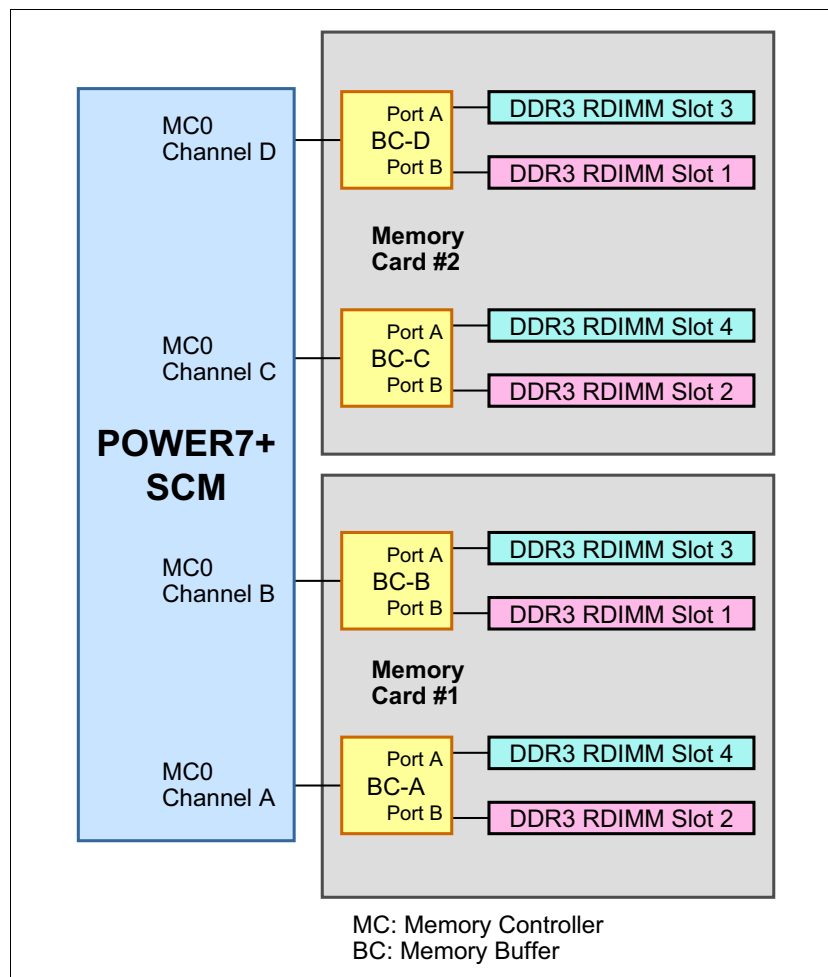

Figure 2-8 Memory DIMM topology for the Power 710 and Power 730
Figure 2-8 shows the physical memory DIMM topology.
- ▶ Memory: The Power 710 and Power 730 system use one memory controller of the POWER7+ processor. The memory controller is connected to a buffer chip using four ports with 8 bytes. Each buffer chip connects to two DIMMs running at 1066 MHz. See Figure 2-8 on page 52 for reference. The bandwidth formula is calculated as follows: